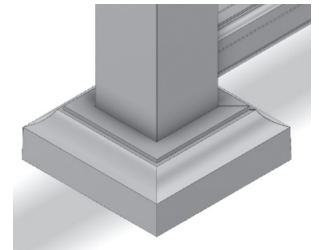

FIGURE 7
Install the (2) piece flange covers (if applicable) around the 2" post shown in FIGURE 7 via pressing the friction fit pieces together.